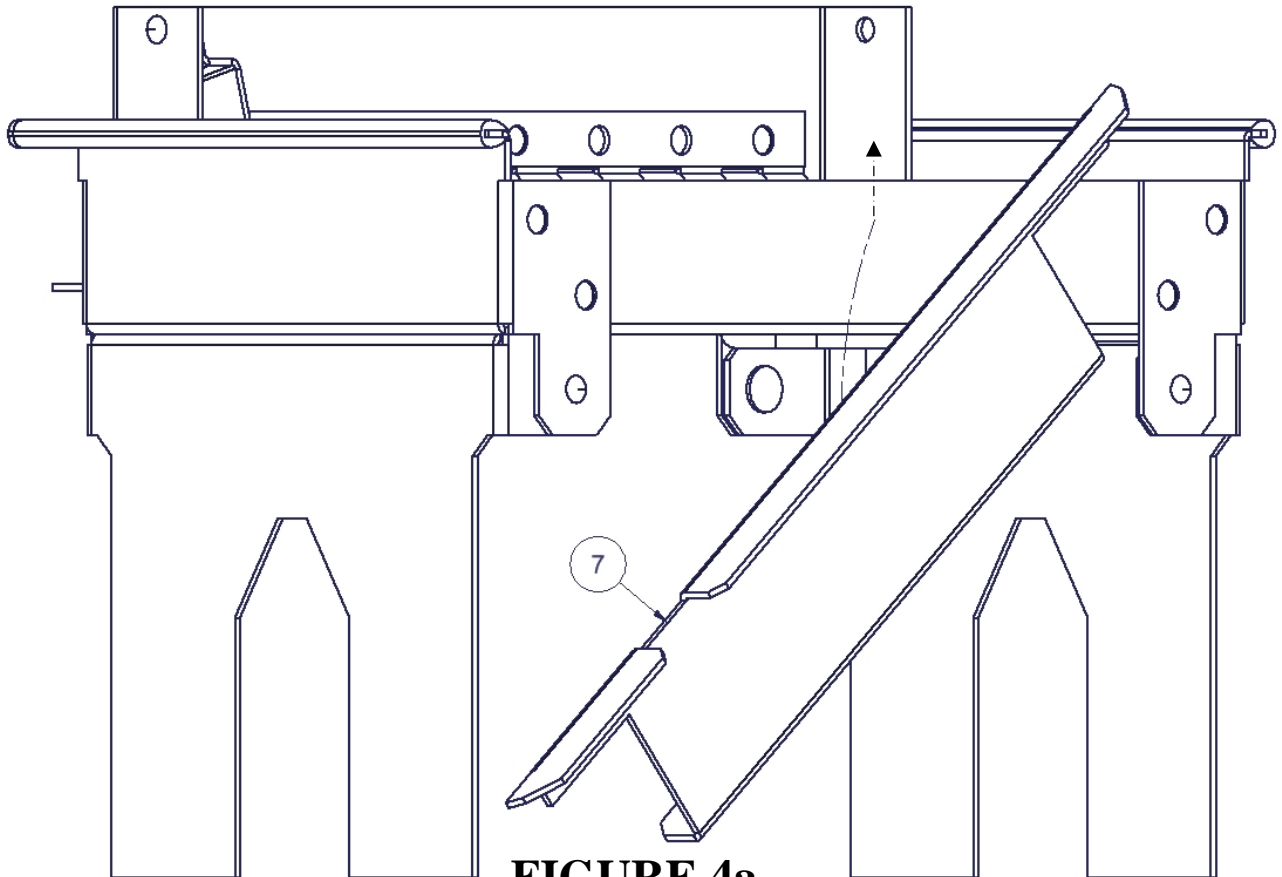

FIGURE 4a
11. Position the #7 Block Plate toward the driver's side of the insert from below/inside the console. Start by angling the rear of the plate upward between the Insert and the driver's side wall of the console. Then rotate the plate up so that the notch in the forward portion of the plate seats around the latch area of the console. Reference Figure 4a.